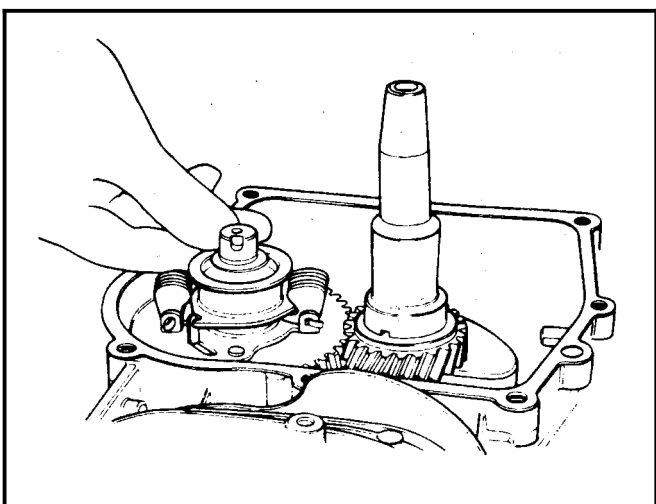

Figure 105
14. Lubricate the inside diameter of the governor collar and install it on the flyweight assembly. Make sure the lower edge of the collar engages the flyweights. Also, make sure the slit in the governor collar engages the cam shaft gear. See Figure 105.